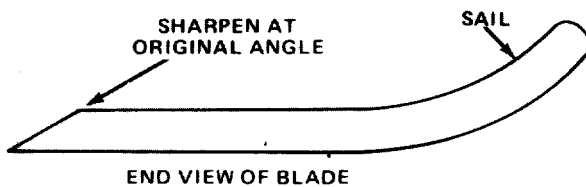

Figure 26
7. Using a file, sharpen cutting edge at both ends of the blade (Fig. 26). File only top side of blade, not the bottom side.